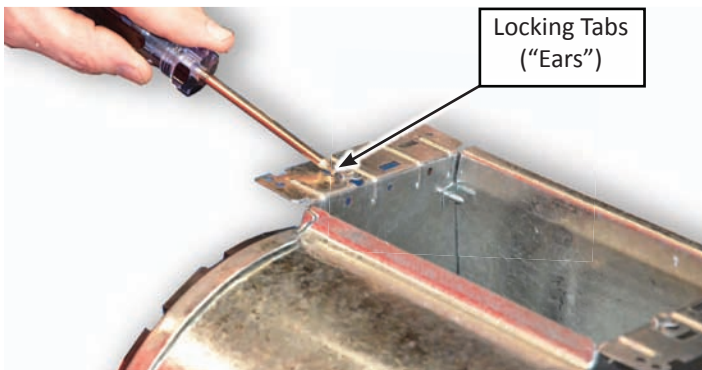

Figure 2
4. Slightly rotate and reposition the motor to disengage the stamped metal "ears" that mate with opening in the motor mounting bracket, see figure 2 and 3.